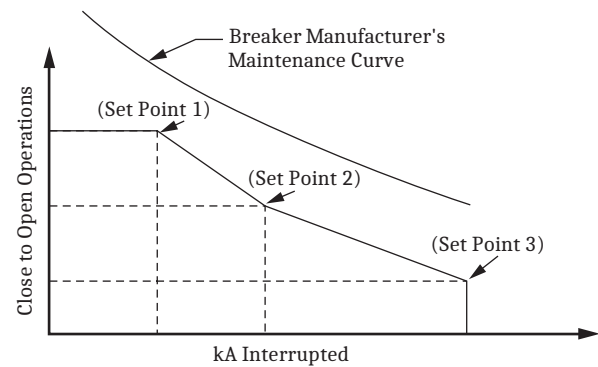

Figure 33 Breaker Contact Wear Curve and Settings
- Every time the breaker trips, the relay integrates interrupted current. When the result of this integration exceeds the threshold set by the breaker wear curve (Figure 33), the relay can alarm via an output contact or the optional front-panel display. With this information, you can schedule breaker maintenance in a timely, economical fashion.